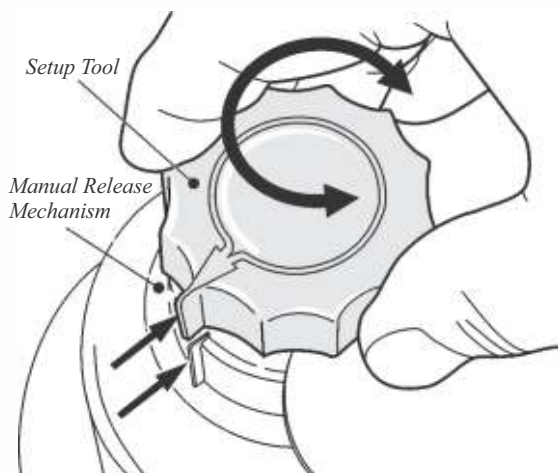

Figure 10 Origin Setup
- Use the origin tool and line up marks as in figure 10. (IM page 28)